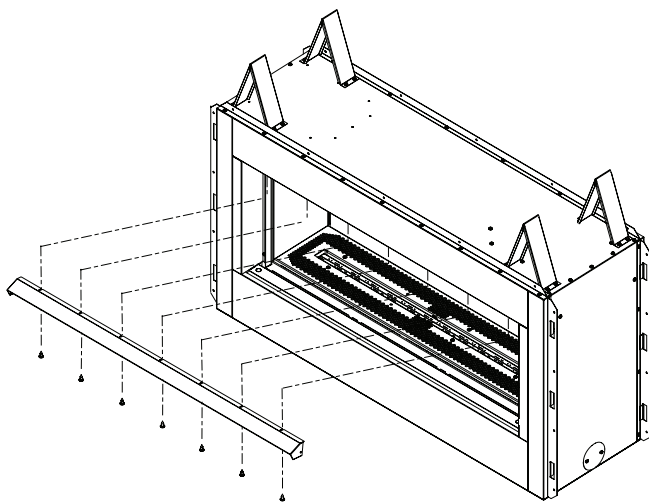

Figure 17 - Installing Hood
1. Loosen screws at top of face opening and slide hood through screws as shown in **Figure 17**.
1. If required, install hood as shown on **Figure 17, Page 14**.